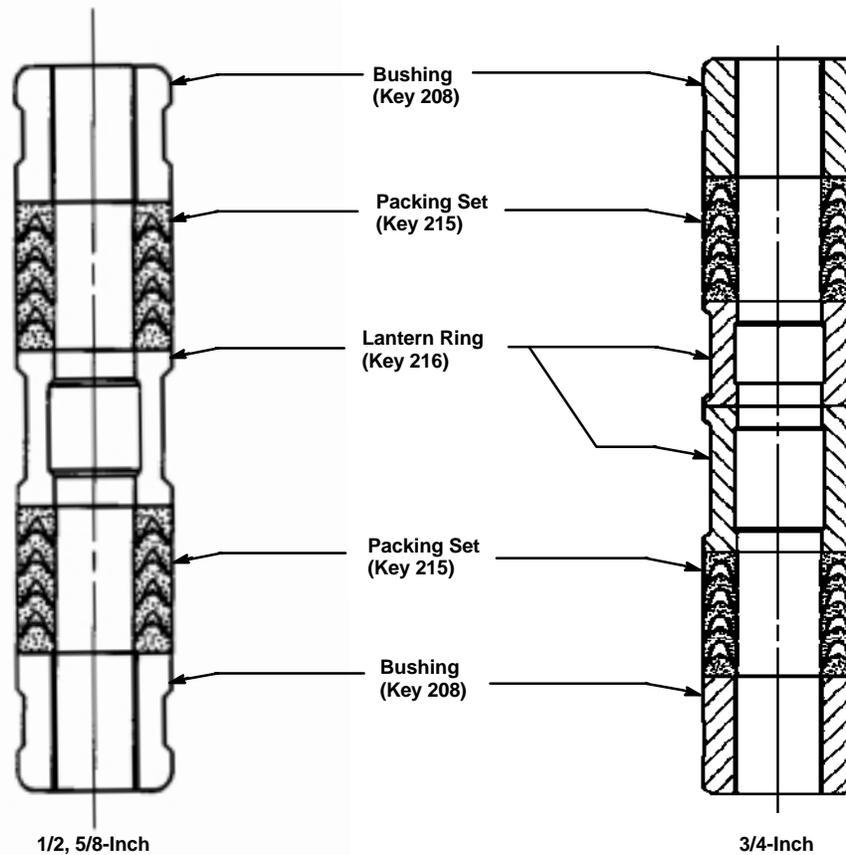

Figure 1. PTFE V-RING WITH ONE-PIECE BUSHING
3. Install new packing and the metal packing box parts according to the appropriate arrangement in figure 1. Place a smooth-edged pipe over the valve stem, and gently tap each soft packing part into the packing box, being sure that air is not trapped between adjacent soft parts.
4. Slide the bushing and packing flange (keys 208 and 201) into position. Lubricate the packing flange studs (key 200) and the faces of the packing flange nuts (key 212). Replace the packing flange nuts, but do not tighten.